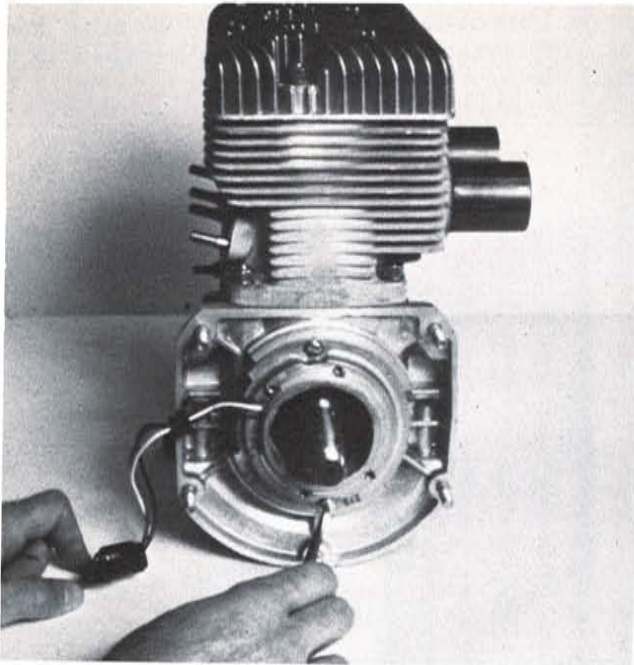

FIG. 17
16. Scribe matching marks on trigger assembly and upper half of crankcase assembly and remove retaining screws and trigger. (Fig. 17)